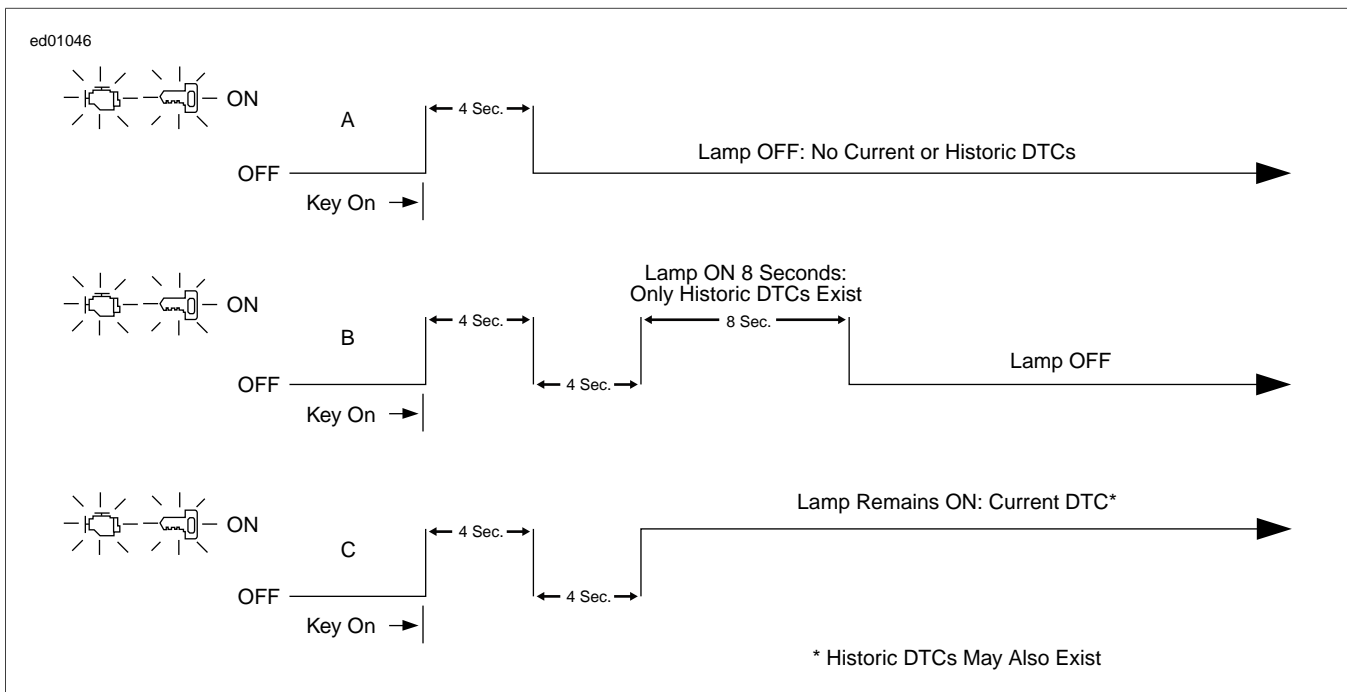

Figure 4-5. Check Engine Lamp Operation
1. See Figure 4-5. After lamp turns off after being illuminated for the first four-second period, one of three situations may occur.